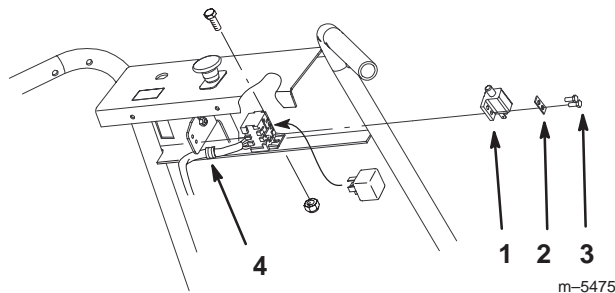

Figure 8
1. Remove the existing neutral switch under the control panel (Fig. 8).
2. Install the the Operator Presence Control (OPC) switch and switch plate to the mounting bracket under the control panel (Fig. 8). Use 2 tapping screws (10–24 x 1/2 in.) (Fig. 8).
2. Install the the Operator Presence Control (OPC) switch and the switch plate to the mounting bracket under the control panel (Fig. 8). Use 2 tapping screws (10–24 x 1/2 in.) (Fig. 8).